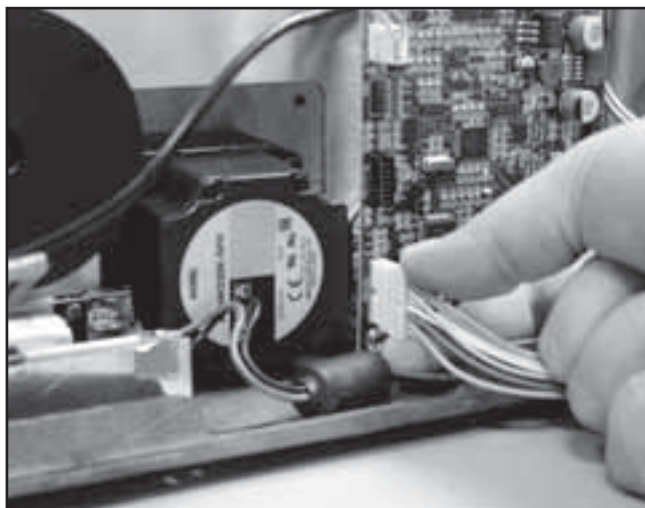

FIGURE 6.59
3. Connect the Motor Assembly Harness to the Motor Control Board. See Figure 6.59.